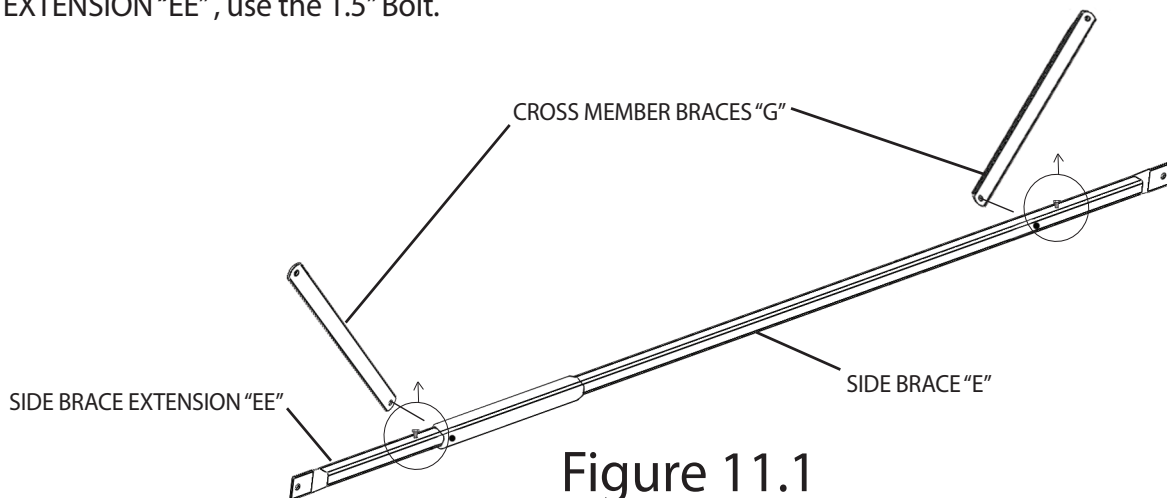

Figure 11.1
STEP 3: Locate (2) SIDE BRACES "E", (2) SIDE BRACE EXTENSIONS "EE" and (4) CROSS MEMBER BRACES "G". Slide the SIDE BRACE EXTENSIONS "EE" into the corresponding opening in the SIDE BRACES "E". Align the CROSS MEMBER BRACES "G" with the corresponding holes, as illustrated in Figure 11.1, and fasten with the hardware (2) 1.5" Bolts (2) 1.25" Bolts and (4) Nuts in the hole locations. This will create the (2) parts COMPLETED SIDE BRACE WITH TWO CROSS MEMBERS, as it will be referred to in the remainder of the assembly manual.
NOTE: Make sure the (2) Set Screw already installed in the SIDE BRACES "E" and the SIDE BRACE EXTENSIONS "EE" are facing the same direction, as illustrated in Figure 11.1. Where the CROSS MEMBER BRACES "G" share a hardware location with SIDE BRACE EXTENSION "EE", use the 1.5" Bolt.